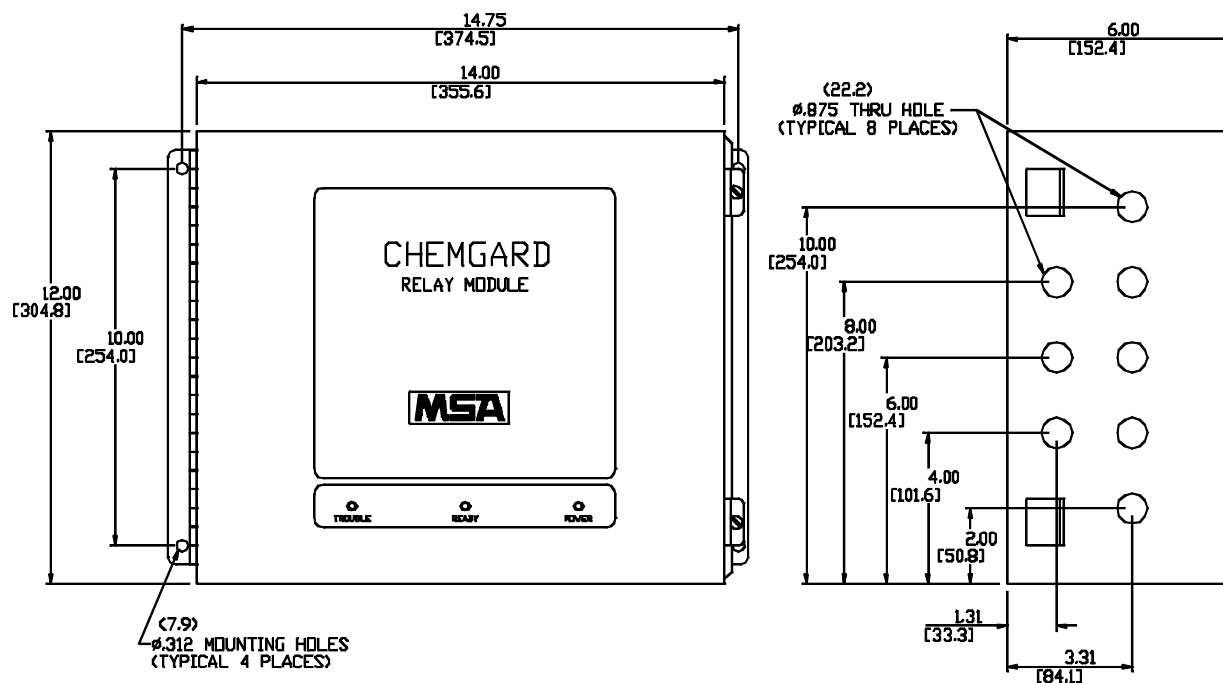

Figure B-2. Mounting the Relay Module
Mount the Chemgard Relay Module adjacent to the controlling Chemgard Infrared Gas Monitor using the four mounting holes as shown in FIGURE B-2 (hardware not supplied).
2. Locate the eight cable entries on the right side of the relay module (FIGURE B-2). From these eight cable entries, choose one of the three bottom entries and remove the hole plug.
1. Refer to FIGURE B-2 for the relay wiring entries into the Chemgard Relay Module.